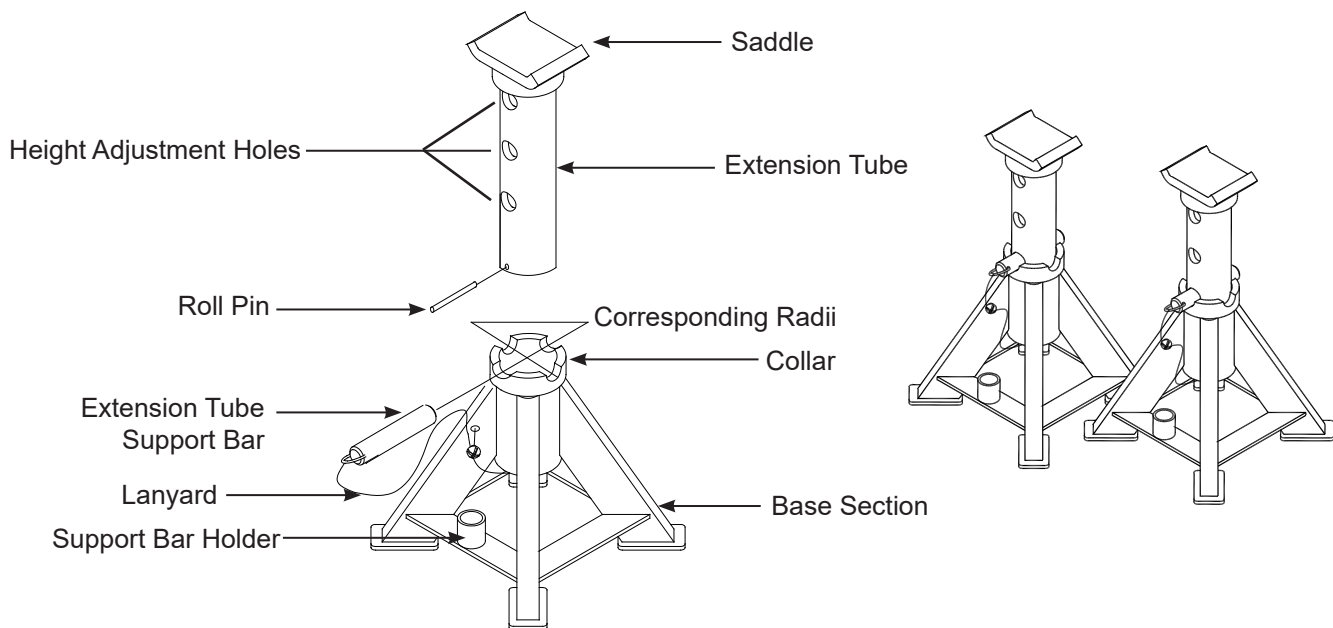

Figure 1 - Model BH5070 Components
2. Ensure that support bar is secured and nested across two corresponding radii (see Fig. 1) before loading. Insert support bar into the extension tube far enough to create equal distance of bar extending from the extension tube on both sides.